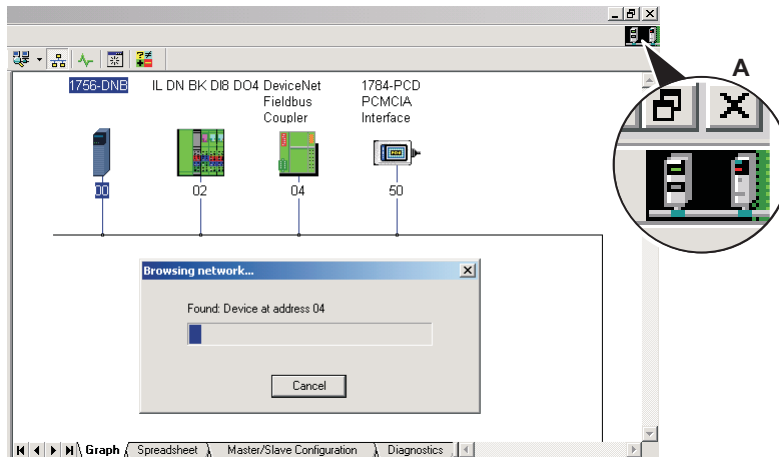

Figure 3-4 Network Browse results
3. Once the driver is selected, click OK. The network browse will start. Make sure the connection status icon (A in Figure 3-4) shows a moving on-line connection. Figure 3-4.
4. Wait for the browse operation to be completed. In our example, the network shows both the icon for the KFD module and the icon for the DeviceNet™ bus coupler. See Figure 3-4. Note the last valid node address setting for the bus coupler (in our example) is 2.
3. Once the driver is selected, click OK. The network browse will start. Make sure the connection status icon shows that there is a moving online connection. Refer to Figure 3-4.
4. Wait for the browse operation to be completed. In our example, the network shows both the icon for the KFD module and the icon for the DeviceNet™ bus coupler. Refer to Figure 3-4.